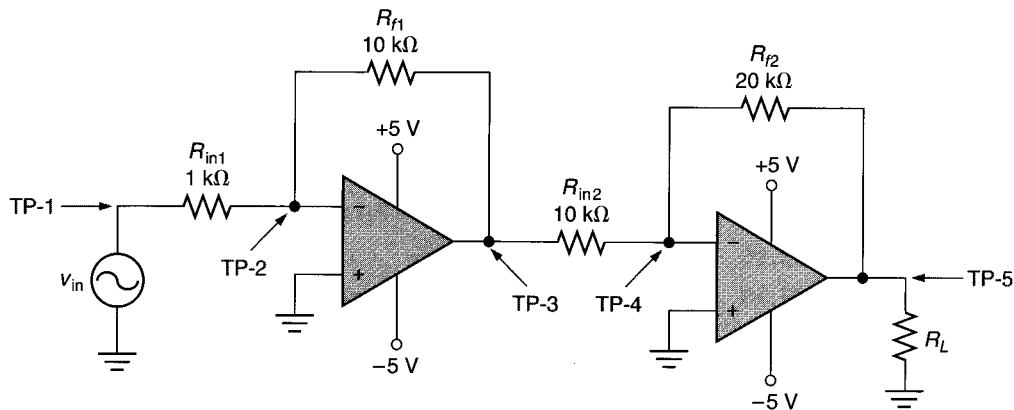

FIGURE 15.71
45. The circuit shown in Figure 15.71 has the following readings: TP-1 = +10 mV, TP-2 = +20 mV, TP-3 = +120 mV, TP-4 = 0 V, and TP-5 = -240 mV. Determine the possible cause(s) of the problem.
46. The circuit in Figure 15.71 has the following readings: TP-1 = -5 mV, TP-2 = 0 V, TP-3 = +4 V, TP-4 = 0 V, and TP-5 = -4 V. Determine the possible cause(s) of the problem.
47. The circuit in Figure 15.71 has the following readings: TP-1 = +2 mV, TP-2 = +1.8 mV, TP-3 = +4 V, TP-4 = 0 V, and TP-5 = 0 V. Determine the possible cause(s) of the problem.
48. The circuit in Figure 15.71 has the following readings: TP-1 = -1 V, TP-2 = 0 V, TP-3 = 0 V, TP-4 = 0 V, and TP-5 = 0 V. Determine the possible cause(s) of the problem.